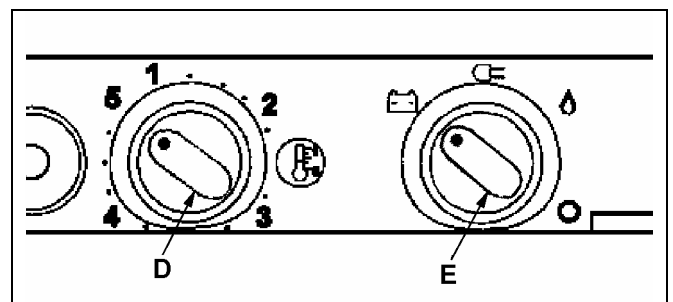

Figure 9-5 – Refrigerator Controls
- Turn the selector switch (E) to the 12 volt battery position. See figure 9-5.
- Turn the thermostat (D) to the desired temperature setting.